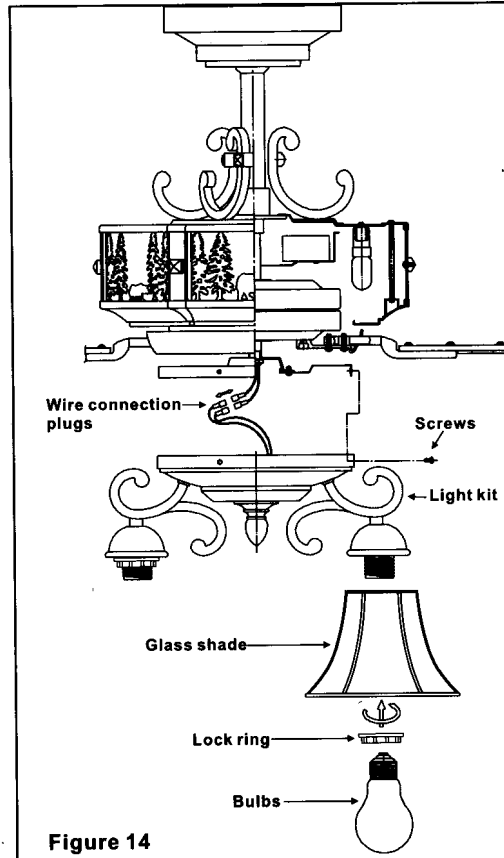

Figure 14
2. Carefully push all wires back into the light kit, then install the light kit onto the mounting plate with 4 screws provided. Be sure to tighten all screws. (Fig. 14)
3. Remove the lock ring from the socket by turning the lock ring counter-clockwise until it unlocks. Insert the glass into the glass holder and turn the lock ring clockwise to tighten the glass. Repeat for the remaining glass. (Fig. 14)